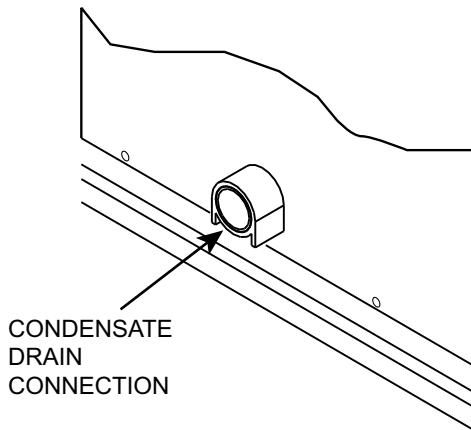

**Fig. 33 — CRBARHOD001A00 Hood Sides and Top**
5. Using the provided hardware, screw the CRBARHOD001A00 hood sides and top together (see Fig. 33).